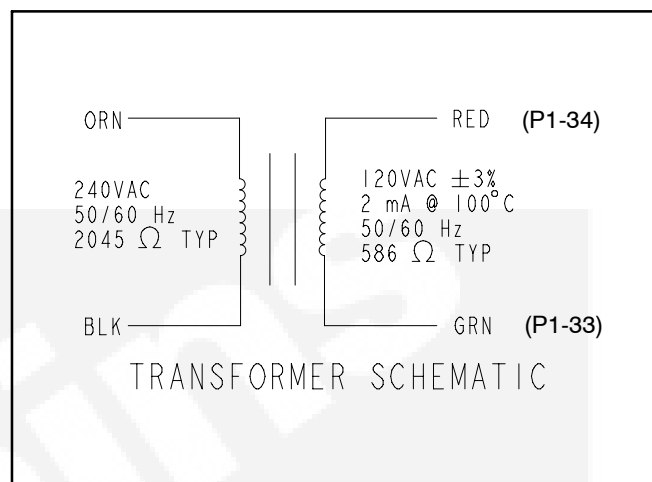

FIGURE 5-6. 3-PHASE VOLTAGE SENSE
**Testing:** Replace the transformer if resistance in either winding is not as specified in the schematic (Figure 5-6).